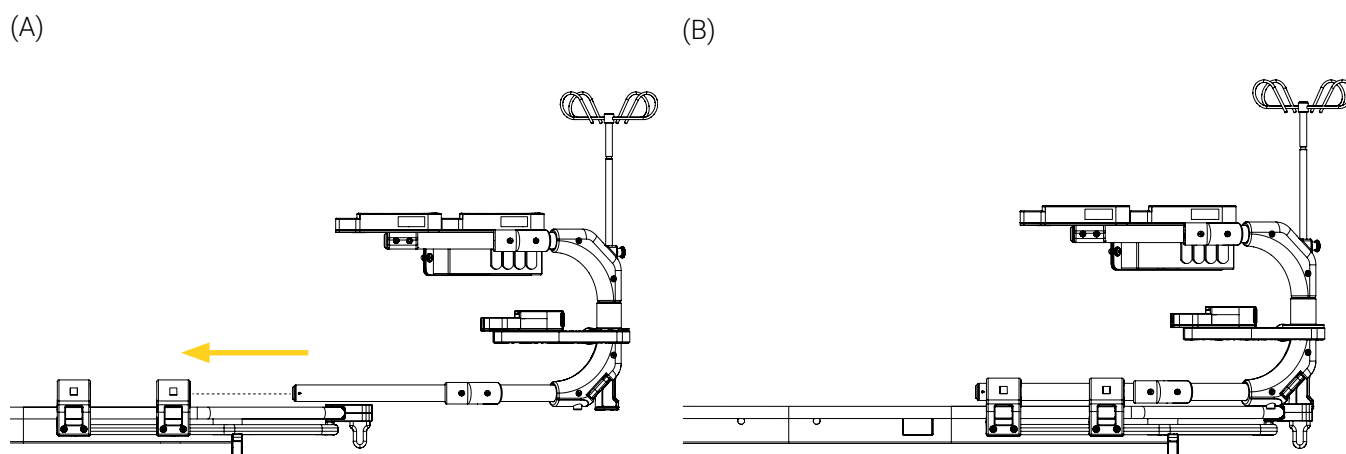

Figure 6: Installing the mobile structure on the cot support structure
3. Lift and insert the tubular arms of the mobile structure in the clamp blocks of the cot support structure (Figure 6) using a safe lifting technique Refer to the « Safety Measures » on page 12 and to your established protocols if needed.